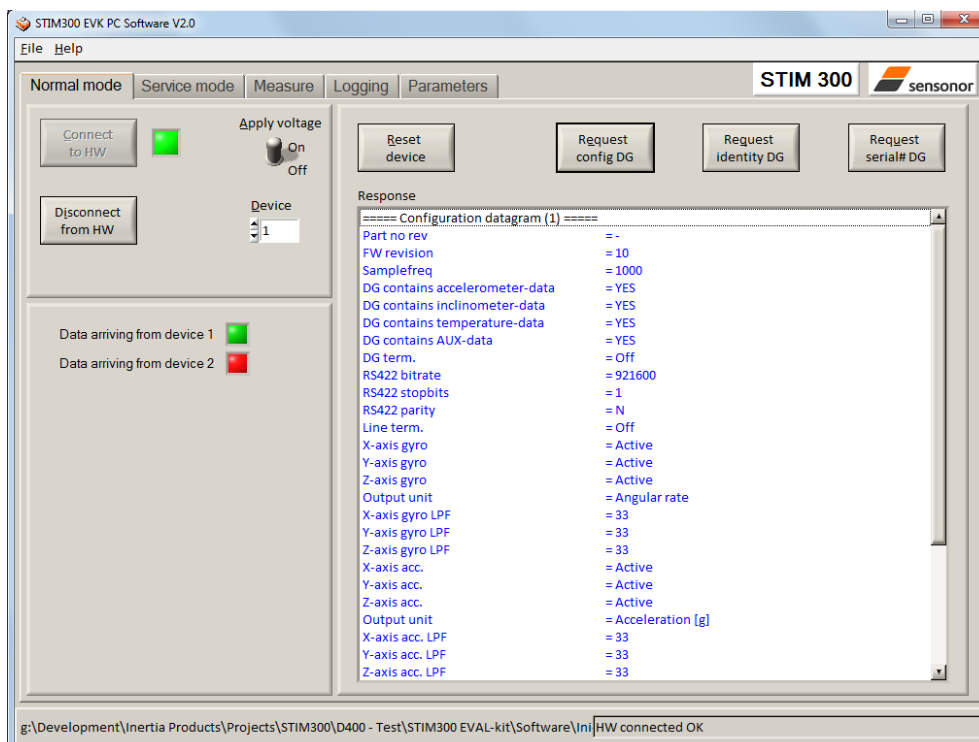

Figure 19: Result of sending 'Request config DG' to the IMU
- Verify the connection to module by clicking on the 'Request config DG' button. An example of such a result is shown in Figure 19. (The kit is now ready for use !)